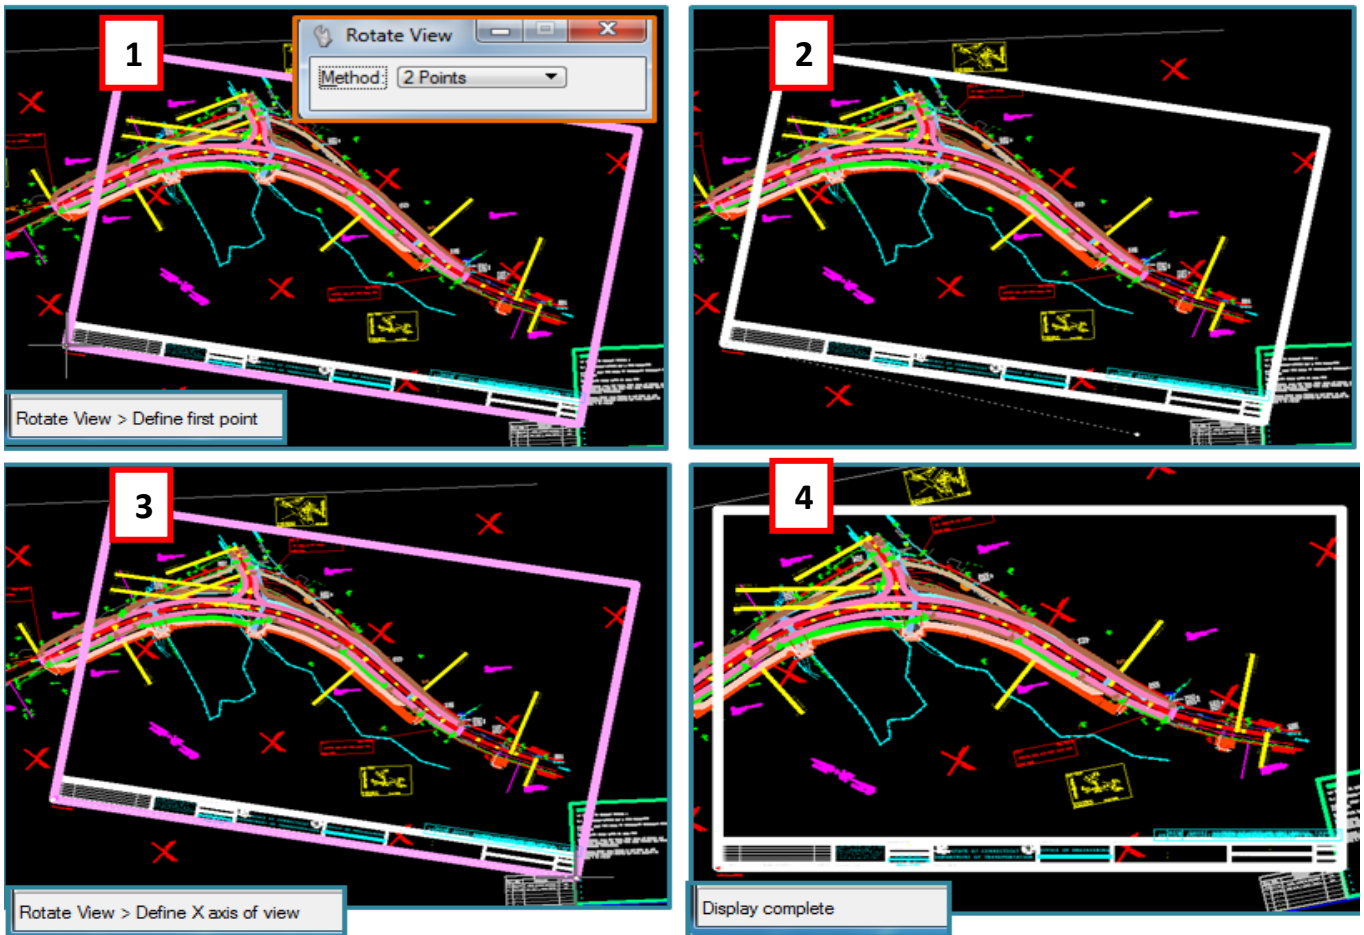

Figure 47 - Rotate View Steps
- Tentative and data point** to the **left bottom corner** of the border cell (1), this is also the cell origin. **MicroStation** command prompt: Define X axis of view (2), **Tentative and data point** to the **right bottom corner** of the border cell (3). View window will rotate and Display is complete (4). (Figure 47).